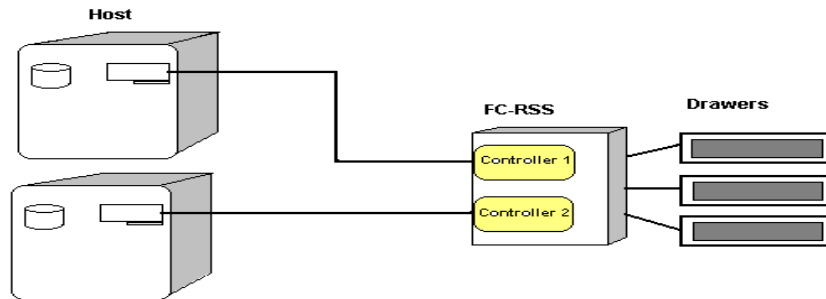

Figure 28. Independent Host
- Independent Host—Two host machines are connected to a dual-controller unit. One host machine is connected by a Fibre Channel loop to one controller, and a second host machine is connected by another Fibre Channel loop to the other controller. Figure 28 on page 51 shows a schematic of an independent host configuration which does *not* provide availability in the case of a failing FC-AL loop, due to the failure of the FC-AL adapter, cable or controller.